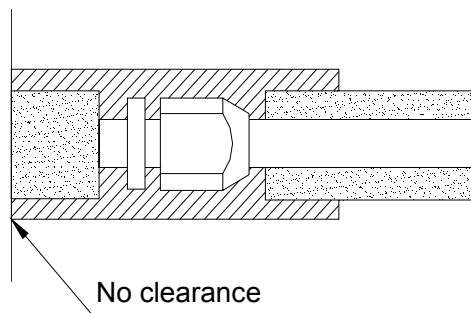

Fig. 3-1-8
- b) The connector to indoor unit shall be wrapped by heat insulation materials to ensure no clearance with the wall of indoor unit, as shown in Fig. 3-1-8.